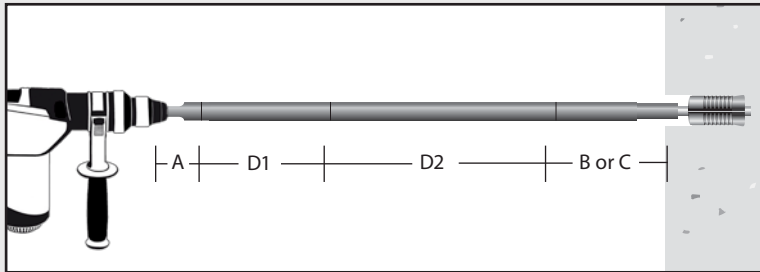

Figure 5.
STEP 5b: Powered (See Figure 5)